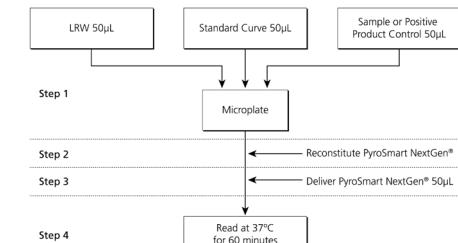

Figure 2: A Schema of the Test Procedure for Microplate Reader Assays
- Prepare the test run as shown in Figure 2. The test setup is described in more detail below.